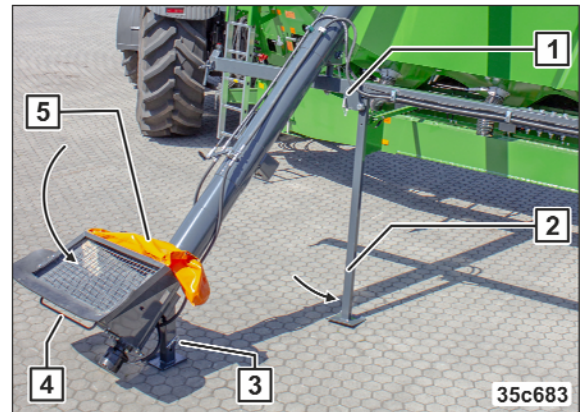

Fig. 215
4. Release locking mechanism (Fig. 215/1).
5. Swivel the jack (Fig. 215/2) down and lock it.
6. Swivel the jack (Fig. 215/3) down and lock it.
7. Using the handle, swivel the filling auger (Fig. 215/4) into working position.
8. Open the funnel tarp (Fig. 215/5).
13. Close the funnel tarp (see Fig. 215/5).
14. Swivel the jack up and lock it (see Fig. 215/2).
15. Swivel the jack up and lock it (see Fig. 215/3).